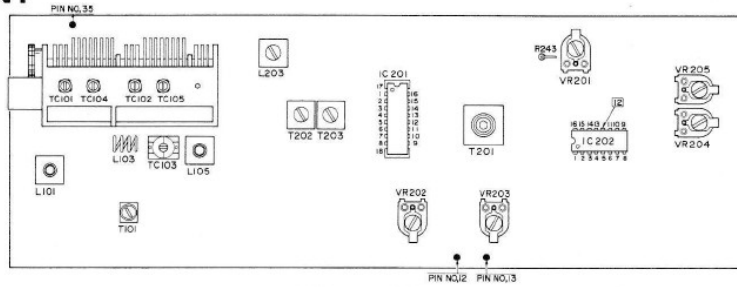

Figure 7
*See P.C.B. illustrations for alignment points/adjustments and Figure 7.
*Refer to P.C.B. illustration and Figure 7 for test points/adjustments.